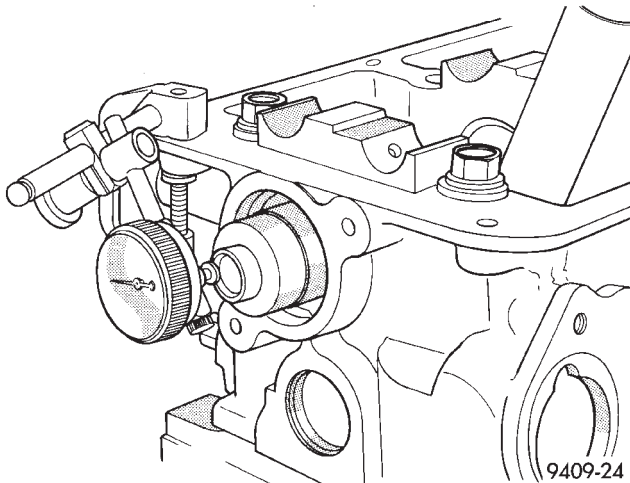

Fig. 10 Camshaft End Play
- (1) Oil camshaft journals and remove rocker arm assemblies. Cam sensor installed and fastener tighten to specified torque.
- (2) Using a suitable tool, move camshaft as far rearward as it will go.
- (3) Zero dial indicator (Fig. 10).
- (4) Move camshaft as far forward as it will go.
- (5) End play travel: 0.13 - 0.33 mm (0.005 - 0.013 inch.).